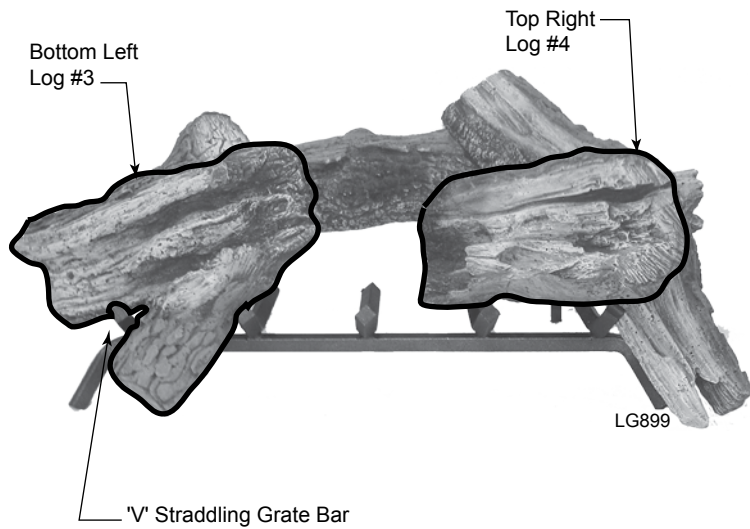

**Figure 102 -
2. Place Rear Log #1 on back of grate. Left side should fit on grate in front of rear stand. Right side goes on the rear stand of grate. *Figure 102*